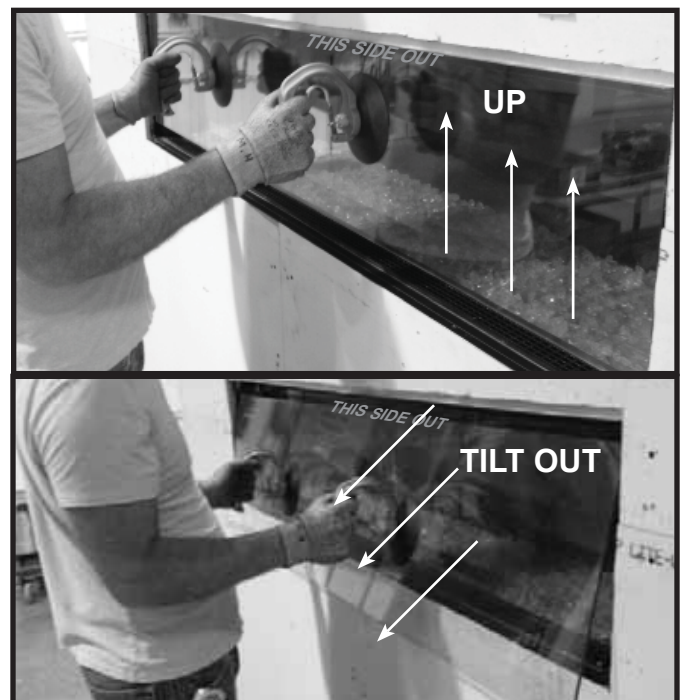

Figure 11.1. Barrier Glass - Clean Face Finish
2. Slide glass straight up behind finishing material. See Figure 11.1.
3. Tilt bottom out as shown in Figure 11.1. Slide glass down to remove it from the appliance.